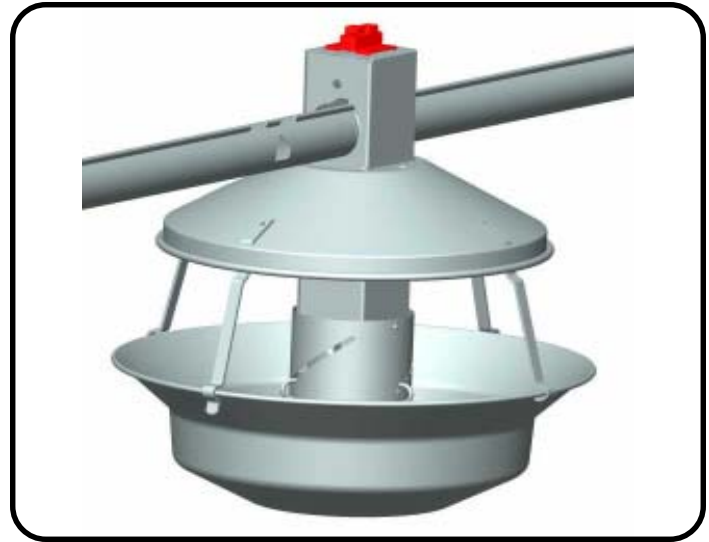

Figure 1
1. Slide the turkey pan assembly onto the auger tube as shown in Figure 1. Position the drop tube so that the walls are inside the slots on the turkey tube ribs. Rotate the auger tube until the hole is facing down into the drop tube. Orient all pivot supports identically and repeat this step for each hole on the auger tube.